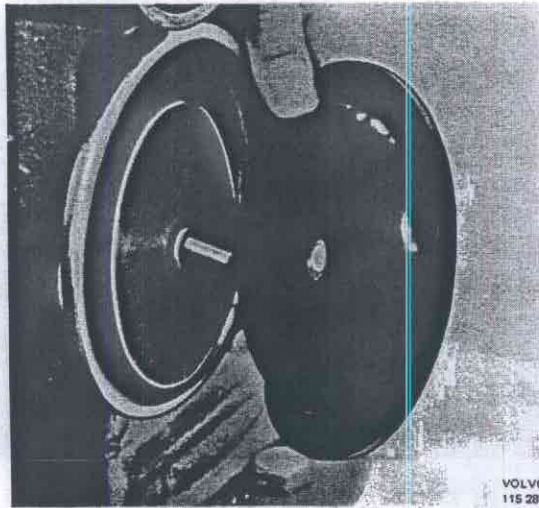

Fig. 43-159. Removing diaphragm
3. Remove nut on the push rod. Remove the washer and the diaphragm, Fig. 43-159. Take care of the spacer washer on the push rod and remove the other washer.